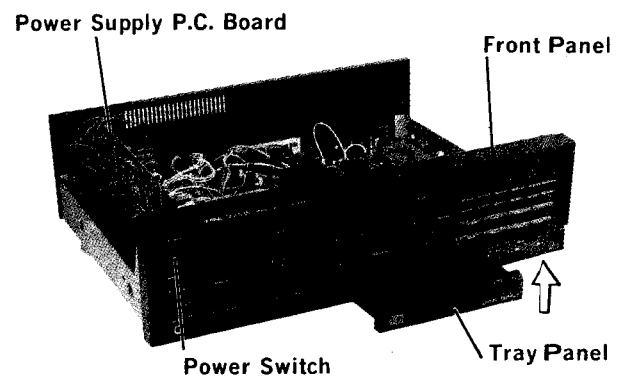

Figure 5 <5図>
- (1) After removing the Top Cover, open the Disk Tray and pull the Tray Panel in the direction as shown in Figure 5.
- (2) Remove the Power switch knob as shown in Figure 5.